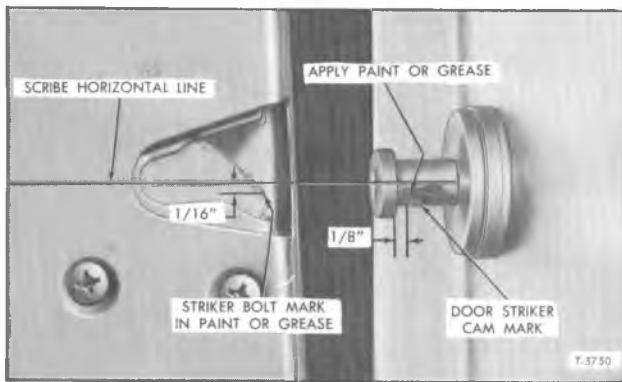

Figure 10—Striker Bolt Alignment
#### STRIKER BOLT ADJUSTMENT (Fig. 10)
1. To check striker bolt for proper fore and aft adjustment, smear grease or paint to contact side of bolt as shown in figure 10.
3. Measure distance between head of bolt and the cam impression in grease. Distance should measure 1/8-inch as shown in right view of figure 10. This dimension is necessary to assure that the head of striker bolt will ride at center of nylon shoe which is located just in back of the lock cam.
1. Mark a horizontal line through center of "V" slot and on door lock cam as shown in left view of figure 10.